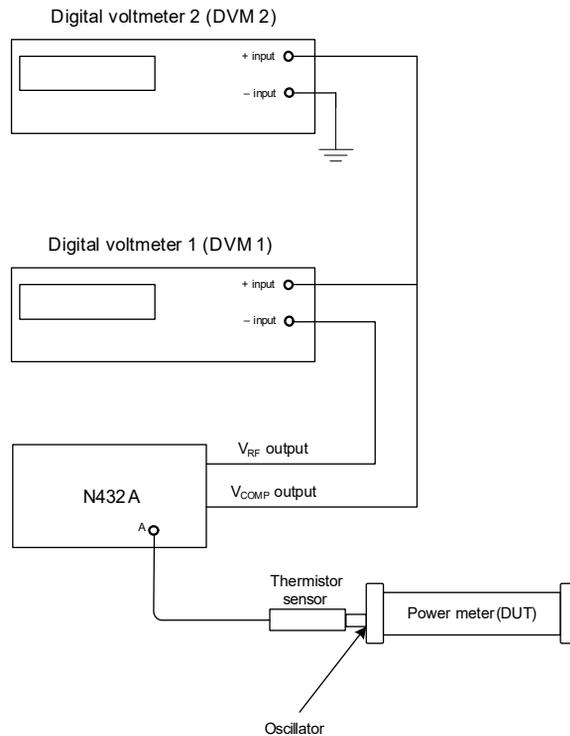

Figure 2-46 Connection diagram for VSWR measurement
- 22** Now, set up the connections shown in Figure 2-46. Connect the N432A rear panel V_{RF} output connector to the negative input lead of DVM 1. Connect the
- 29** Now, set the N432A bridge resistance to 100Ω . Again, set up the connections shown in Figure 2-46.